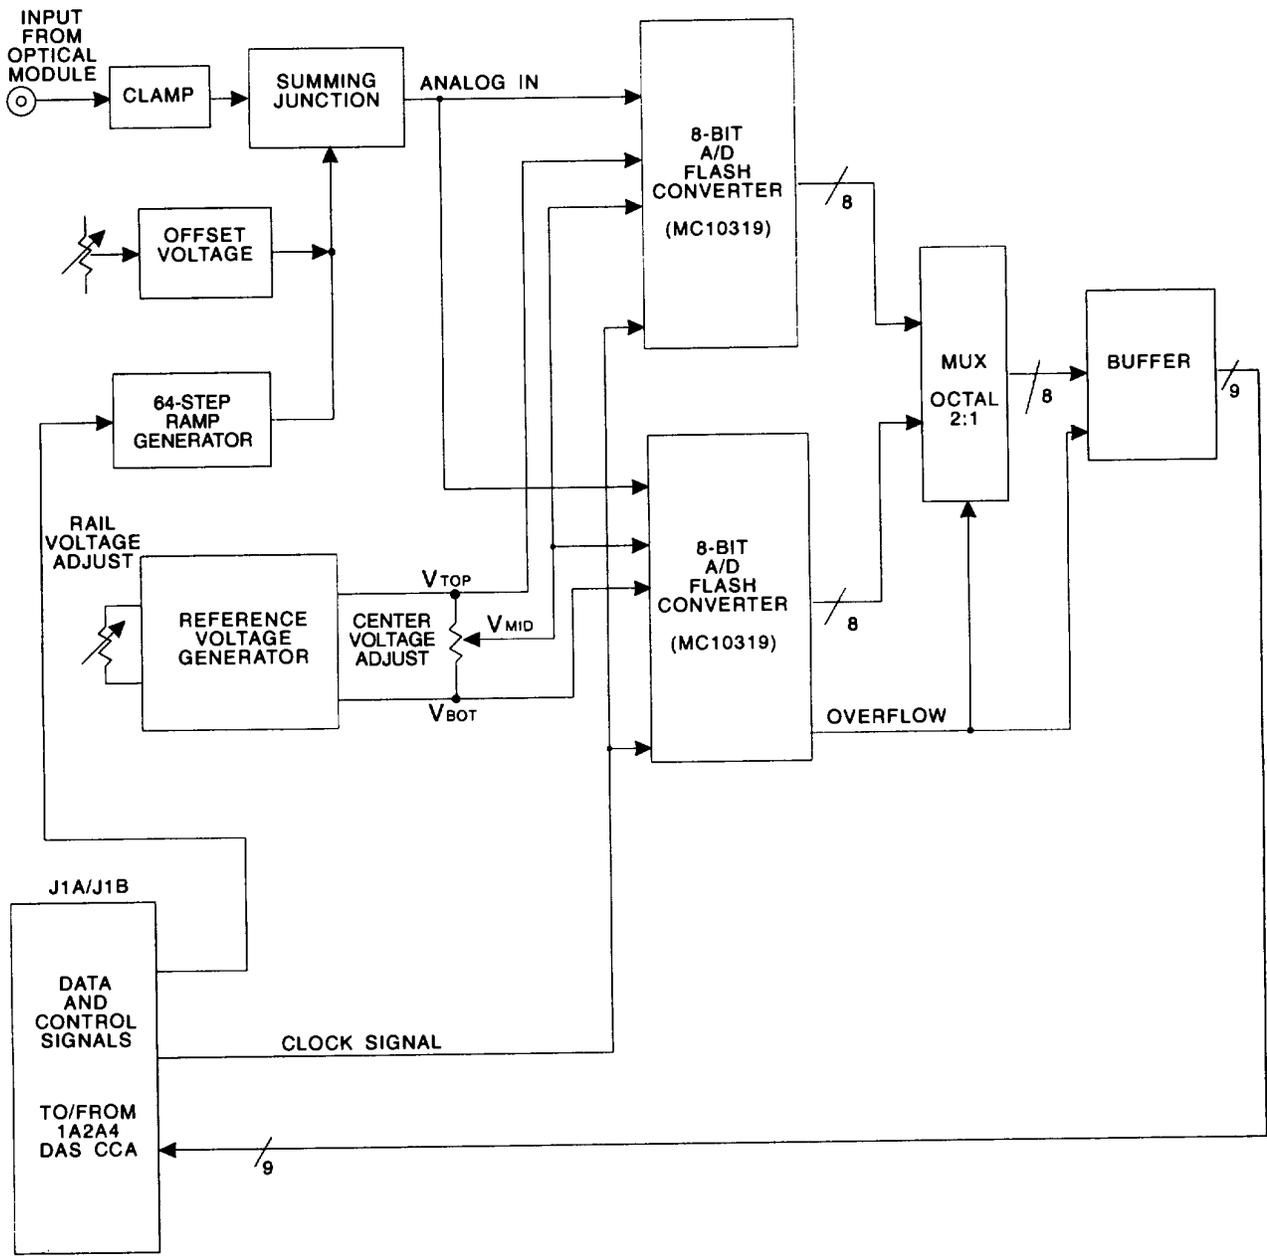

Figure 1-2. 1A2A8 A/D Converter CCA Functional Block Diagram
- a. **1A2A8 Analog to Digital Converter (A/D Converter) CCA.** This CCA (fig. 1-2) is the main link between the Optical Module and the Mainframe. Fiber signature data generated at the optical module is converted to digital data and presented to the 1A2A4 DAS CCA for acquisition, averaging, processing, and analysis.